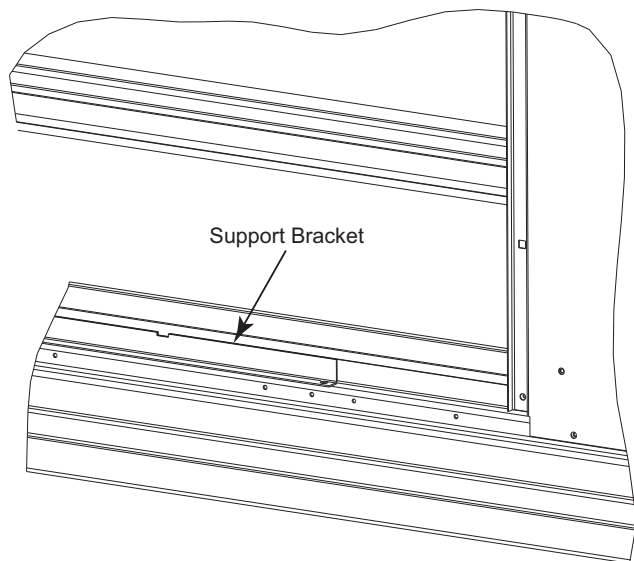

Fig. 6 — Install Support Bracket to Base Rail for Vertical Return Air Applications
2. Install support bracket (50HE400966) to holes in the base rail, as shown in Fig. 6, using four No. 10 x 5/8 in. serrated head screws (AL48AM217).